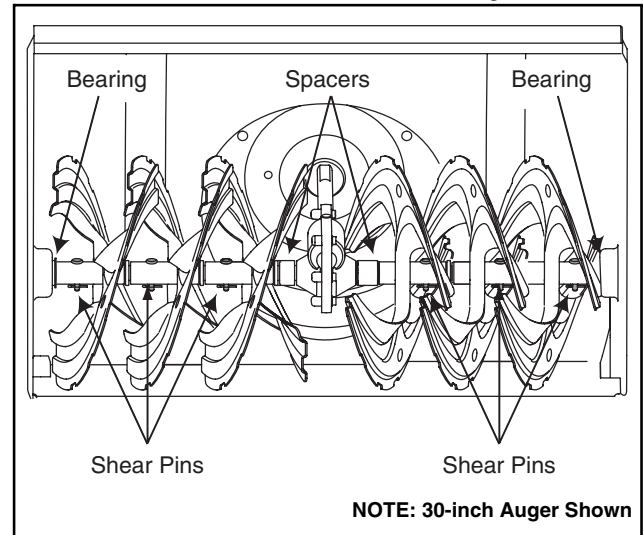

Figure 8
- At least once a season, remove the shear pins on auger shaft. Spray lubricant inside shaft, around the spacers. Also lubricate the flange bearings found at either end of the shaft. See Figure 8.
- The augers are secured to the spiral shaft with four shear pins and cotter pins. If the auger should strike a foreign object or ice jam, the snow thrower is designed so that the pins may shear. Refer to Figure 8.